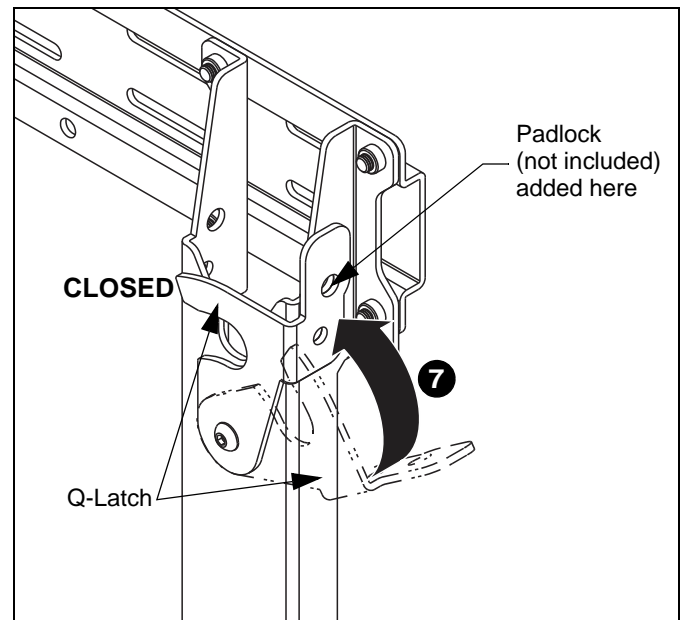

Figure 6
7. Move Q-Latches to **CLOSED** position and lock. (See Figure 6)